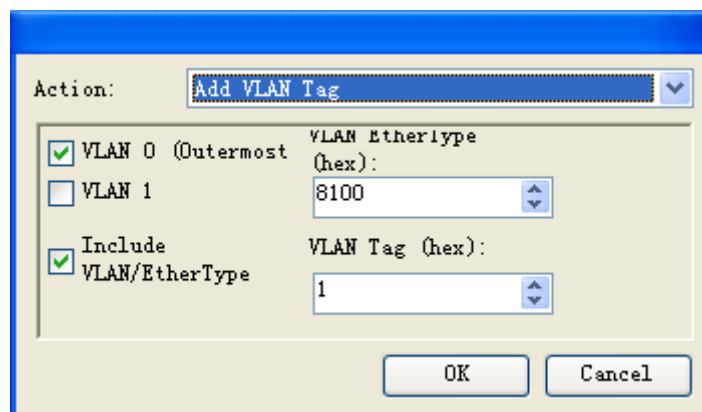

Figure 8-6 Add Actions
- a. In the display part of Rule Actions, click Add to display the action window; select an Action from the drop-down menu: for example, select Add VLAN Tag shown in the Figure 8-6;